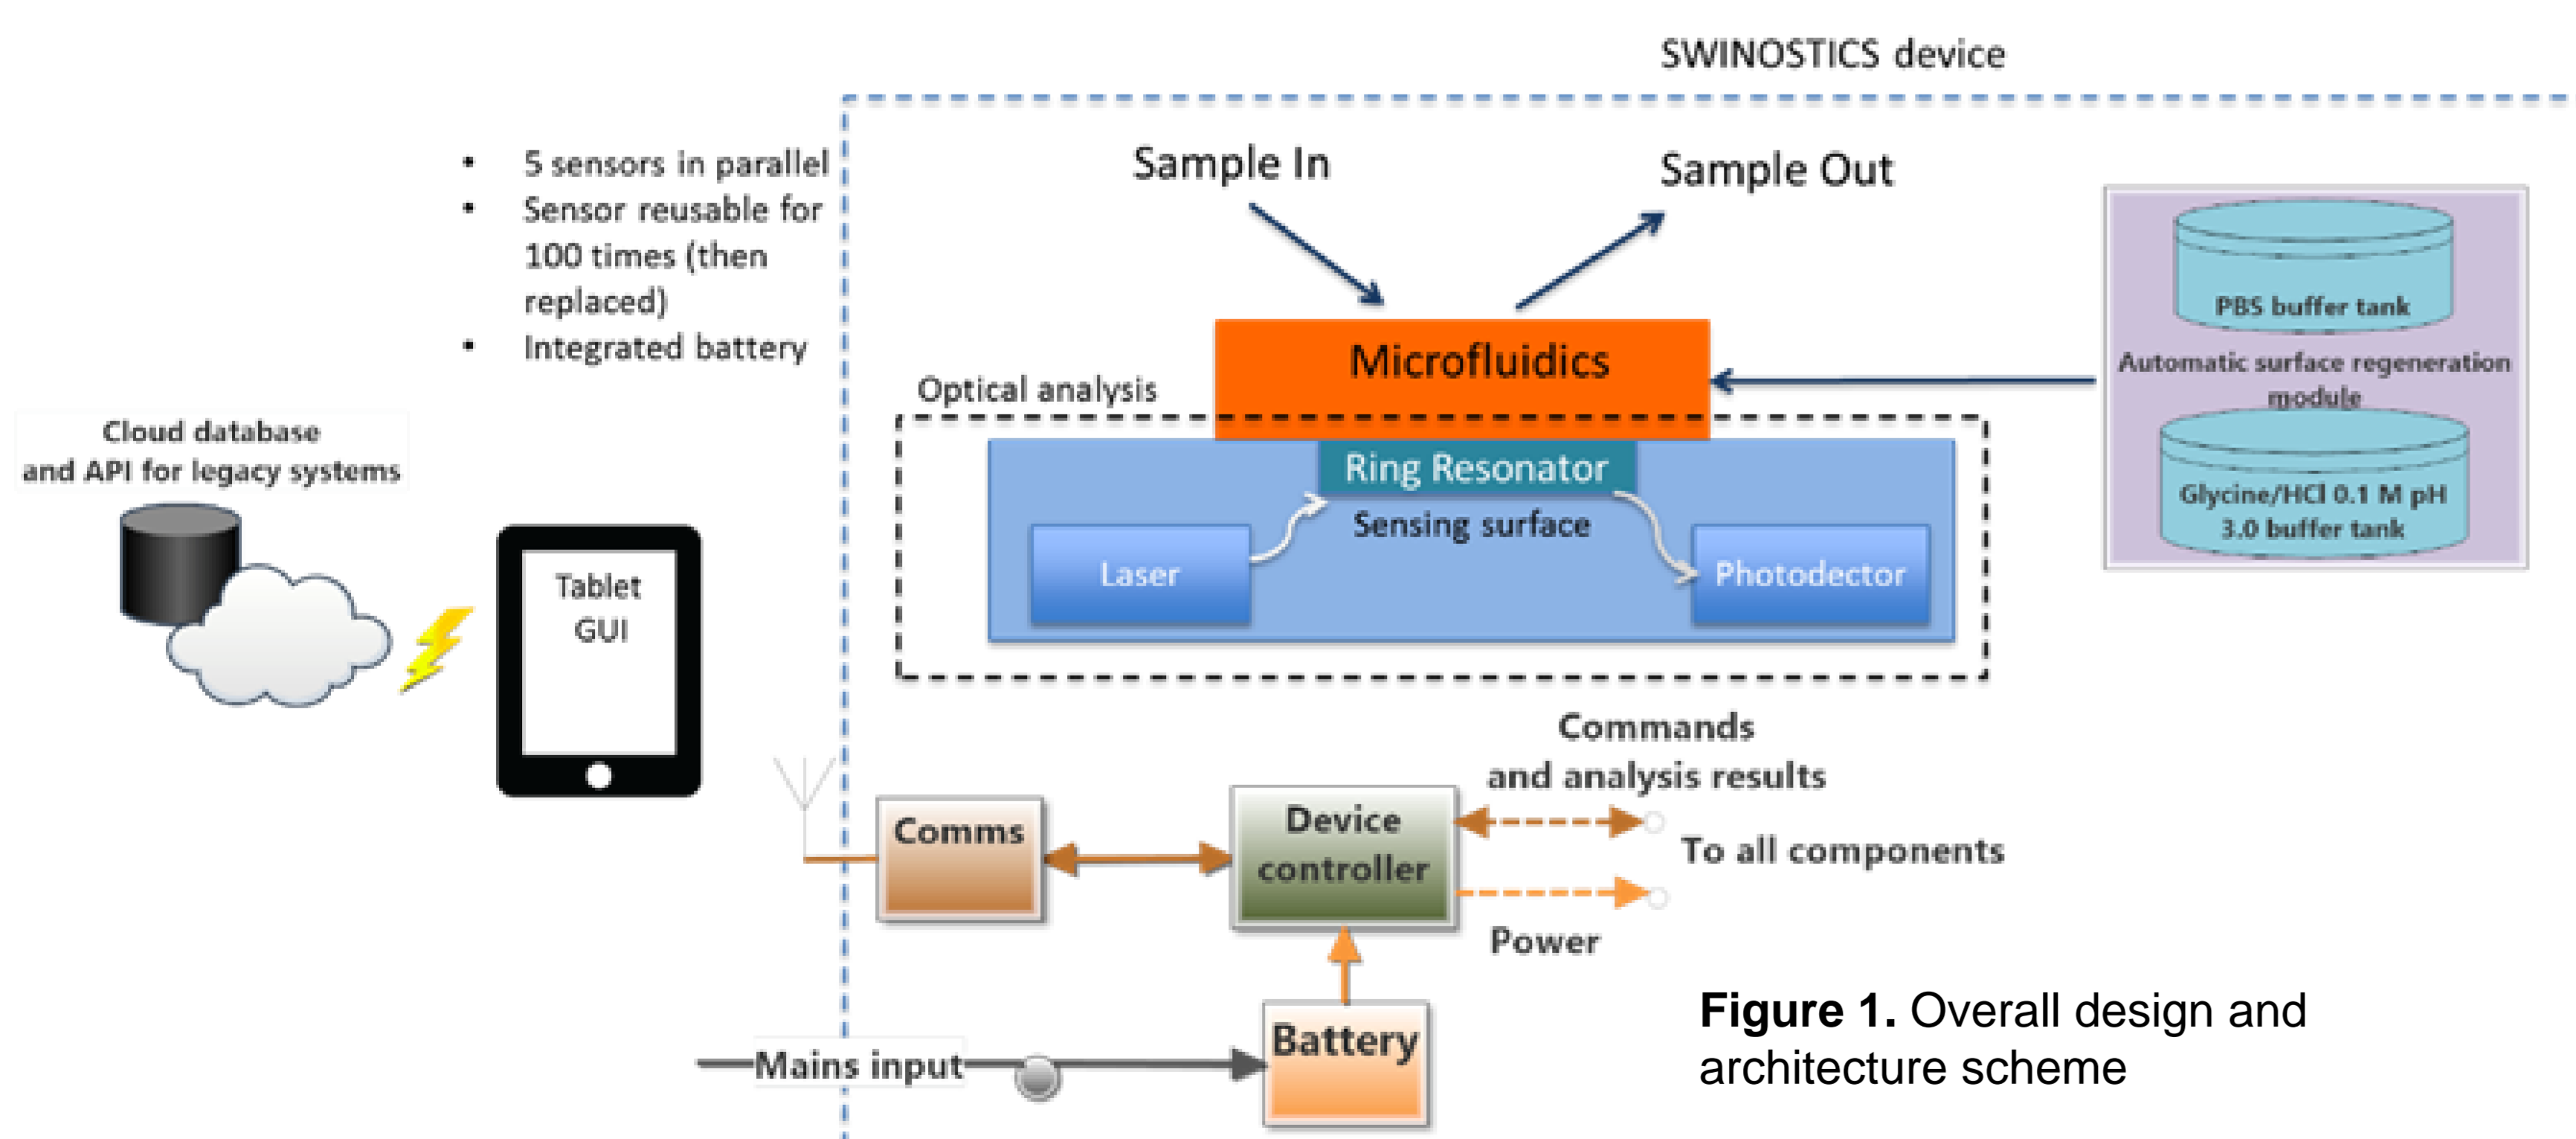

Figure 1. Overall design and architecture scheme
- Advanced, reusable, silicon based Photonic Integrated Circuits depending on antibody-antigen bond (Figure 1)